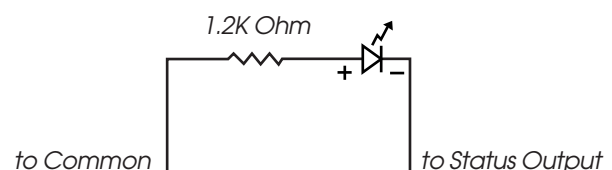

Figure 2
a. Momentary Pushbutton: When momentary contact is made between the ON and COM, outputs will change to the next state that they were programmed to. Can step all 3 loads in up to eight (8) sequences.
b. Maintained ON/OFF: When contact is made between the ON and COM, outputs will change to the next state that they were programmed to. When the contact is opened, it can have the capability to go to any of the eight (8) states. Can step all 3 loads in up to eight (8) sequences.
c. Timed-ON: The timed-ON input will operate from the momentary input closure. It will change to one of the eight (8) states programmed and after that it will return to the original state. The timed-ON duration shall be set to 1-60 seconds or 1-120 minutes.
f. Master Override: When maintained contact is made between the ON and COM, outputs controlled by this input will be forced to a specific state and held in their current state until the input is released. All input commands are ignored for controlled output(s) until released. At release, the input can be set to stay at the present state or go to any other state. It can step to one of the eight (8) sequences on Close and on Open of the switch.
g. Secondary Override: When maintained contact is made between the ON and COM, outputs controlled by this input will be forced to a specific state and held in their current state until the input is released. All input commands are ignored for controlled output(s) until released except for the Master Override input. At release, the input can be set to stay at the present state or go to any other state. It can step to one of the eight (8) sequences on close and on open of the switch.
4. Status Output: The module is provided with three (3) low voltage status outputs. Each status output will track the corresponding load control output. Each output will provide 7mA at 10 VDC to drive a single remote status LED. **NOTE:** A current limiting resistor is required for the status LED as shown in Figure 2. The resistor must be 1.2K ohms or greater and 1/4 Watt.